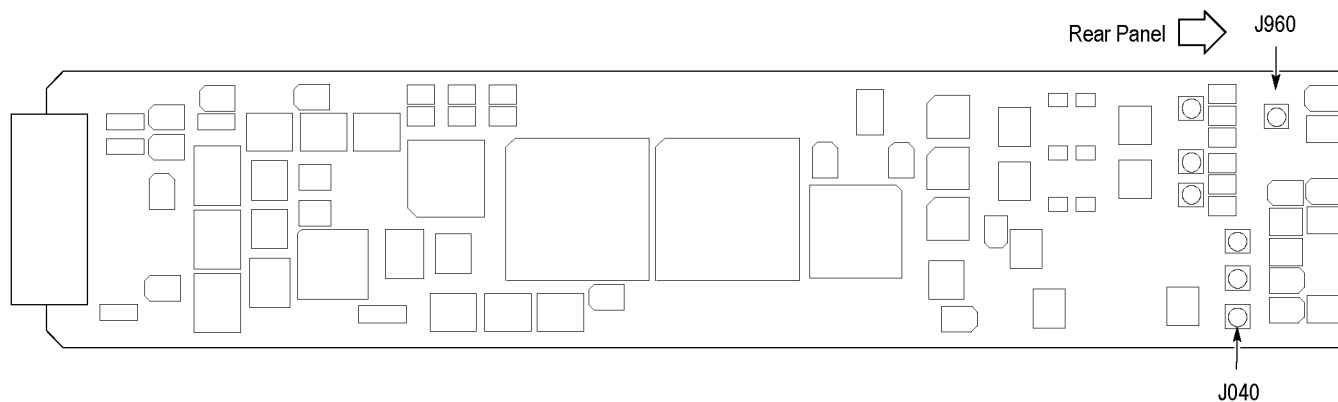

Figure 21: Location of J040 and J960 on the AGL7 module
1. Disconnect the coaxial cable from the connector labeled **J040** on the AGL7 module. (See Figure 21.)